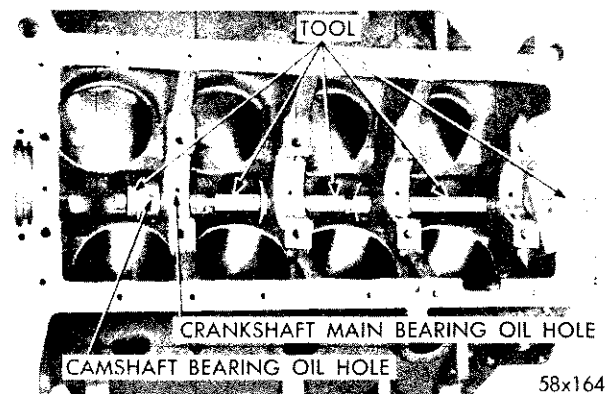

Fig. 38—Removing Camshaft Bearing Using Tool C-3132A
(1) Install the new camshaft bearings with Tool C-3132A. Place the new camshaft bearing over the proper adapter.
(2) Position bearing in the tool. Install horse shoe lock and by reversing removal procedure, carefully drive bearing into place, as shown in Figure 38.
(3) Install remaining bearings in like manner.
The oil holes in camshaft bearings and cylinder block must be in exact register to insure proper lubrication (Figure 38).